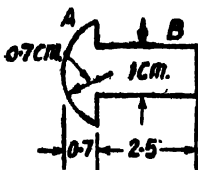

Fig. 8.5
6. Estimate the length and weight of 1 cm. dia. stock required to hand forge 200 rivets of dimensions given in Fig. 8.5. Assume density of material as 8 gm./c.c.